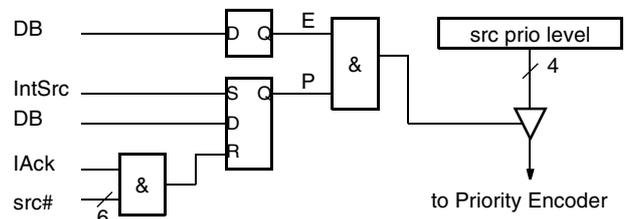

Fig. 9-2: ISN Flags
Each falling edge of an interrupt source signals an interrupt request to its ISN and sets its Pending flag P (Fig. 9-2). Besides the P flag each ISN consists of an Enable flag (E) and a Source Priority register containing the priority of the corresponding interrupt source. As long as both flags (E and P) are true, the ISN outputs its priority. Otherwise it outputs the lowest priority (that is no priority).